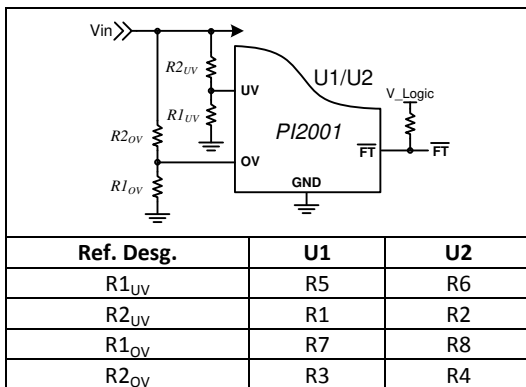

Figure 4: UV & OV two resistor divider configuration
2.1. UV and OV programmable resistors are configured for a 3.3V Vin (BUS voltage) application in a two-resistor voltage divider configuration as shown in Figure 4. UV is set to 2.6V and OV is set for 3.8V, R1OV and R1UV are 2.00KΩ 1%. If the PI5101-EVAL1 is required to be used with a different Vin voltage application please follow the following steps to change the resistor values.